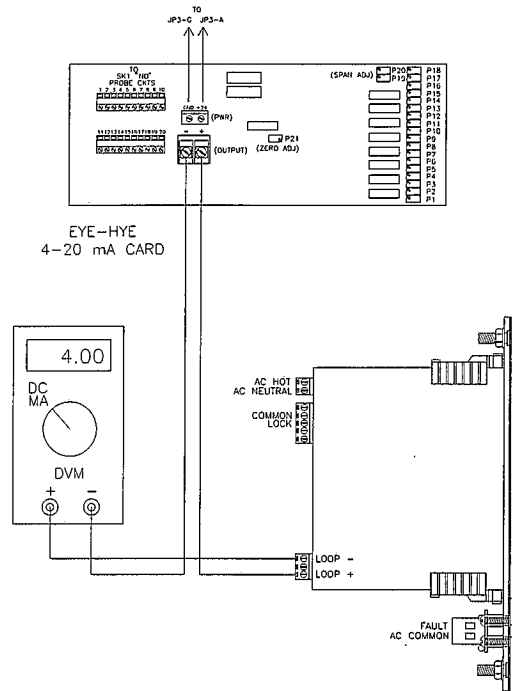

Figure 3
- 1.) Referring to Figure 3, connect a DVM in series with the 4-20 mA loop. Set the DVM to measure approximately 50 DC milliamps, (observe the meters polarity).